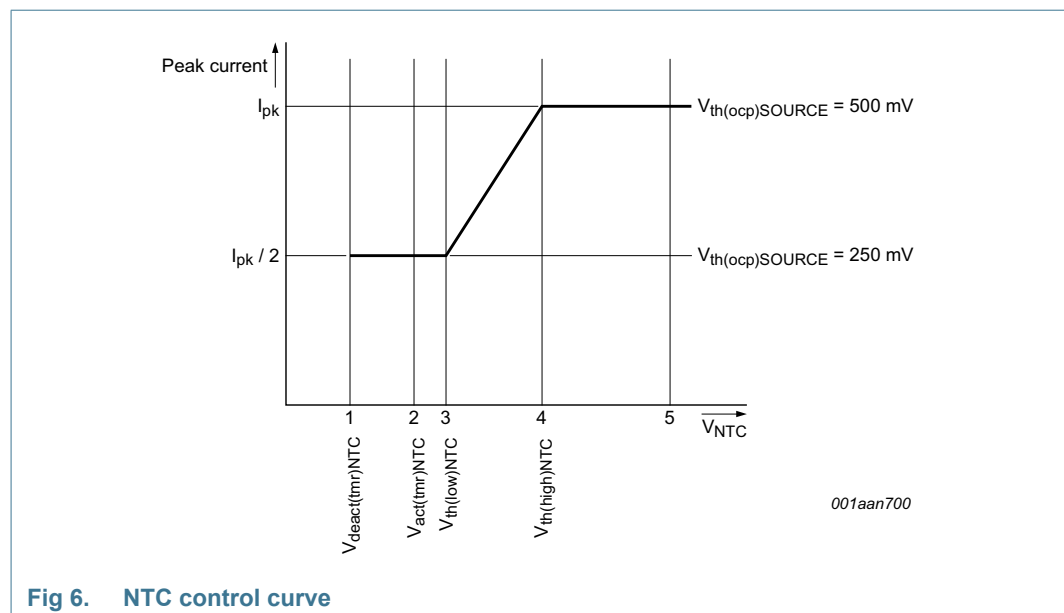

Fig 6. NTC control curve
The NTC pin can be used as a control method for LED thermal protection. Alternatively, the pin can be used as an input to disable/enable light output using a digital signal (PWM regulation). The pin has an internal current source that generates the current of  $I_{offset(NTC)}$ . An NTC resistor to monitor the LED temperature can be connected directly to the NTC pin. Depending on the resistance value and the corresponding voltage on the NTC pin, the converter reacts as shown in Figure 6.
When the voltage on the NTC pin exceeds  $V_{th(high)NTC}$  (see Figure 6 \(4\)), the converter delivers nominal output current. When the voltage is lower than this level, the peak current is gradually reduced until  $V_{th(low)NTC}$  is reached (see Figure 6 \(3\)). The peak current is now half the peak current of nominal operation. When  $V_{act(tmr)NTC}$  is passed (see Figure 6 \(2\)), a timer starts to run to distinguish between the following situations:
- If the low-level  $V_{deact(tmr)NTC}$  is not reached within time  $t_{to(deact)NTC}$  (see Figure 6 \(1\)), LED overtemperature is detected. The IC stops switching and attempts to restart from the HV pin voltage. The converter restarts from an NTC protection shutdown when the voltage on the NTC pin exceeds  $V_{th(high)NTC}$  (see Figure 6 \(4\)). It is assumed that the reduction in peak current does not result in a lower NTC temperature and LED OTP is activated.
- If the low-level  $V_{deact(tmr)NTC}$  is reached within the time  $t_{to(deact)NTC}$  (see Figure 6 \(1\)) it is assumed that the pin is pulled down externally. The restart function is not triggered. Instead, the output current is reduced to zero. PWM regulation and consequently LED output current regulation can be implemented this way. The output current rises again when the voltage exceeds  $V_{th(low)NTC}$ .
The NTC pin can be used to make a soft start function. During switch-on, the level on the NTC pin is low. By connecting a capacitor (in parallel with the NTC resistor), a time constant can be defined. The time constant causes the level on the NTC pin to increase slowly. When passing level  $V_{th(low)NTC}$  (see Figure 6 \(3\)), the converter starts with half of the maximum current. The output current slowly increases to maximum when  $V_{th(high)NTC}$  (see Figure 6 \(4\)) is reached.